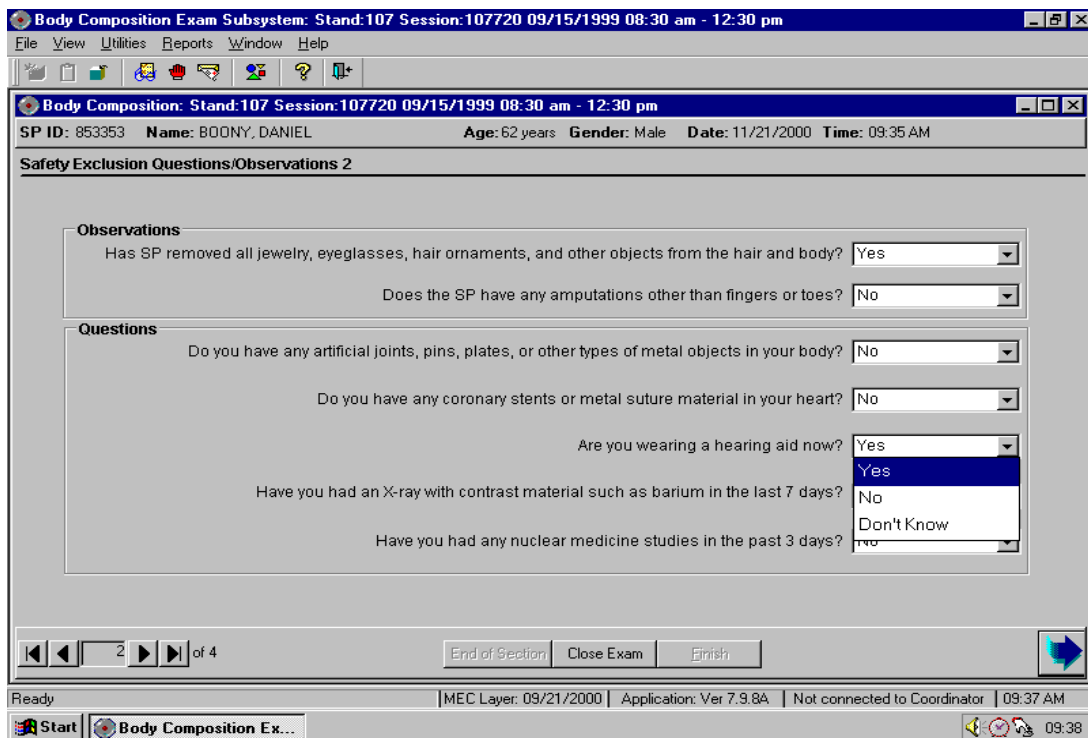

Figure 4-18. Safety/exclusion questions (hearing aid)
- Continue with the remaining questions. When the Next button is pressed, a message will be displayed: ‘Excluded from BIA for safety reasons.’ Click OK to this message. See Figure 4-18.